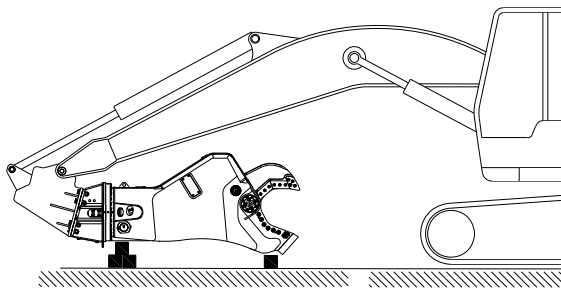

Fig. 6-1 Mounting as 2nd Member
6.3 Mounting Procedure - 2nd Member (Fig. 6-1)